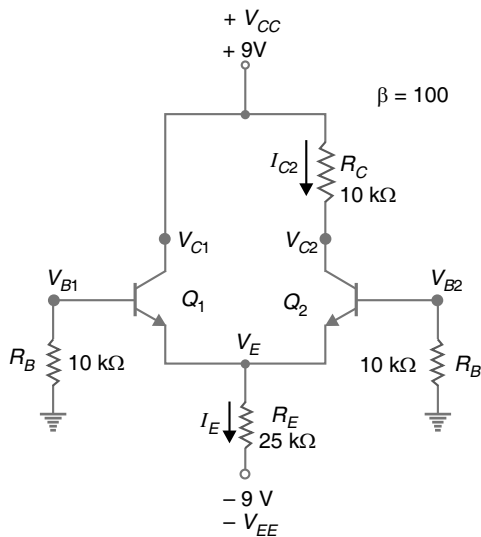

Fig. 23.98
4. Find bias voltages and currents for the differential amplifier circuit in Fig. 23.98.